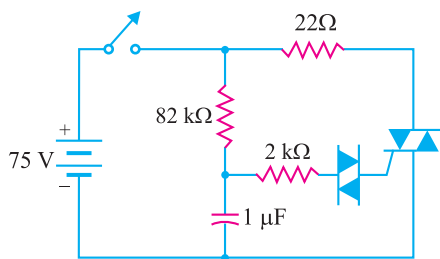

Fig. 21.34
6. In Fig. 21.34, the switch is closed. If the triac has fired, what is the current through the  $22\Omega$  ?